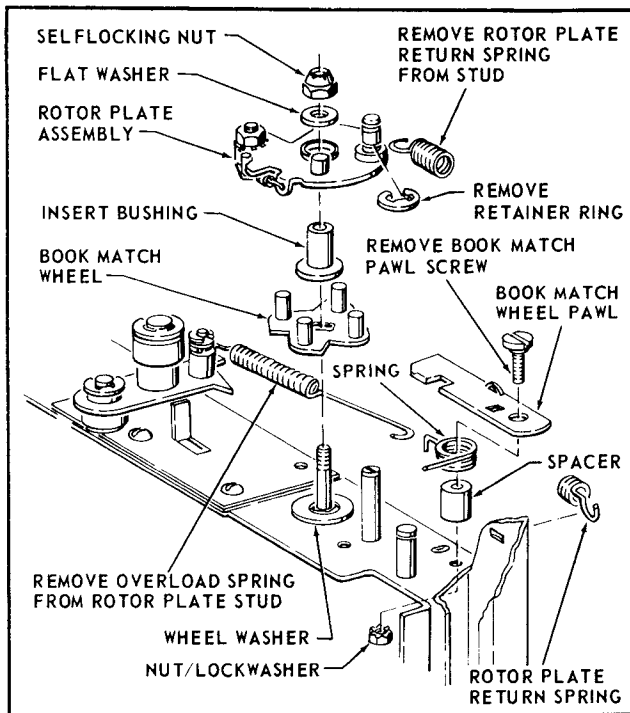

FIGURE 3
5. Place the Book Match Assembly on its side. See Figure 3.